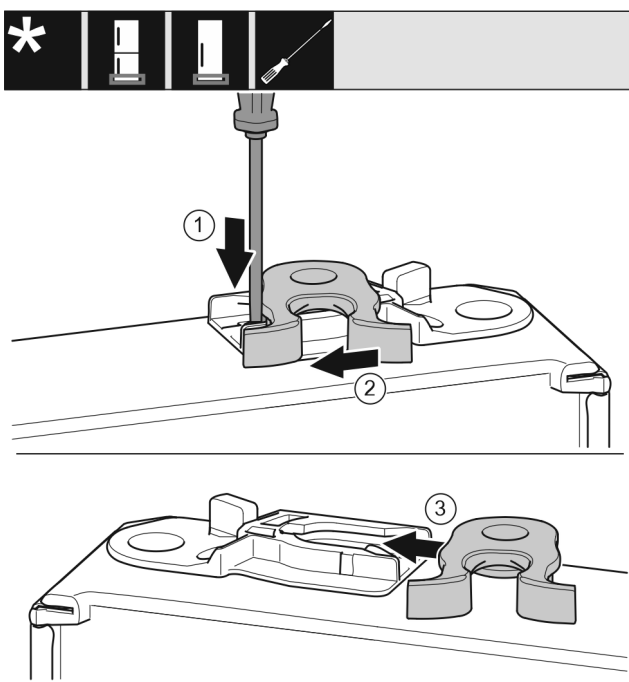

Fig. 27
- Push the lug downwards with a slotted screwdriver. Fig. 27 (1)
- Pull the door latch out of the guide. Fig. 27 (2)
- Push the door latch into the guide on the other side. Fig. 27 (3)